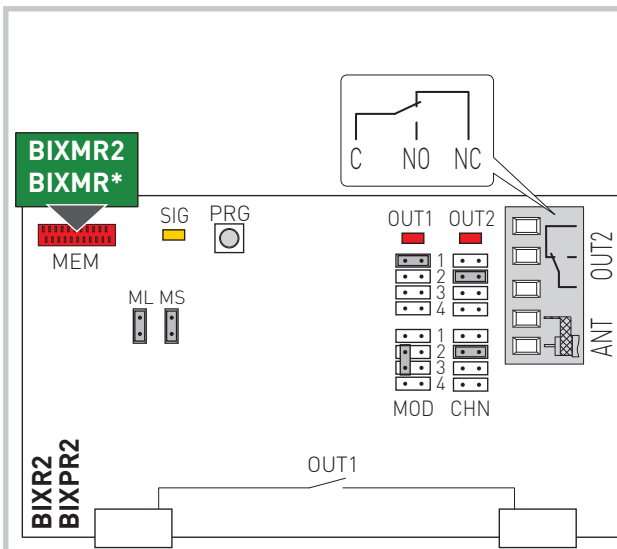

Fig.1
2. Ricevitore (Fig. 1)
6. Cancellazione trasmettitori da memoria ricevitore (Fig.1)
2. Receiver (Fig. 1)
6. Cancellation of transmitters from receiver memory (Fig. 1)
2. Récepteur (Fig. 1)